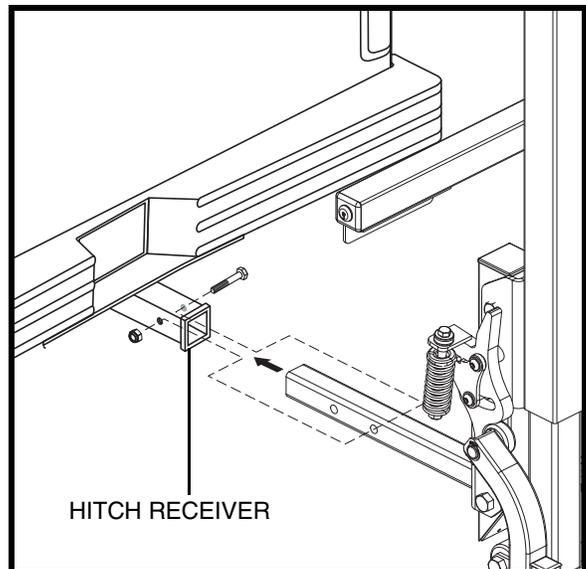

Figure 6. Lift Frame Vehicle Mounting
3. Slide the hitch tube into the vehicle hitch receiver, aligning the mounting hole closest to the lift with the mounting hole in the hitch receiver. See **figure 6**.
4. Secure the hitch tube with the supplied bolt and nut, inserting the bolt from the threaded side of the hitch tube. See **figure 6**.